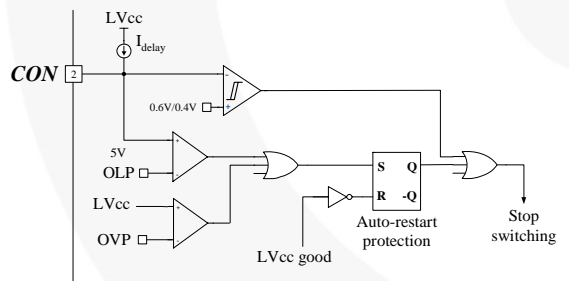

Figure 21. Internal Block of Control Pin
**4. Control Pin:** The FSFR-series has a control pin that can be used for protection, cycle skipping, and remote on/off. Figure 21 shows the internal block diagram for control pin.